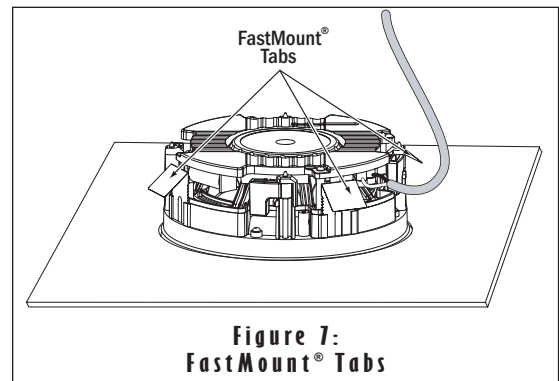

Figure 7: FastMount® Tabs
- The FastMount tabs will prevent the speaker from falling out of the mounting hole, allowing the installer to let go of the speaker to pick-up tools or other items (Figure 7).